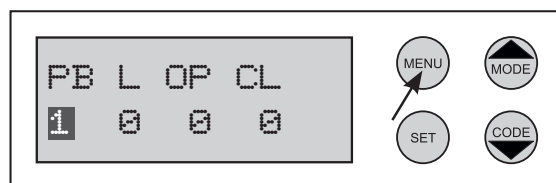

Fig. 43
- 1 Press **MENU** for 3 secs then press **SET** to cycle to the TX Button Allocation screen as per Fig. 43.